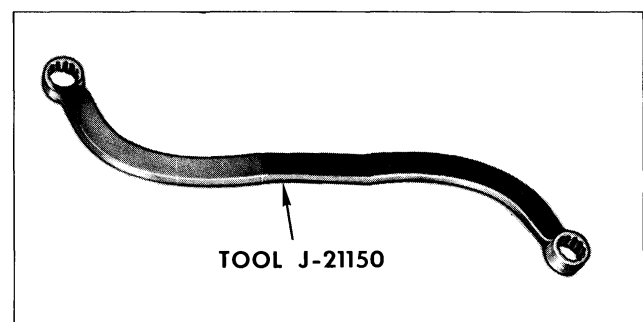

Fig. 12-17 Hinge Tool
**NOTE:** Tool J-21550 is designed for adjustment of front door hinge to body attaching bolts (Fig. 12-17). Usage of this tool eliminates the need of loosening the front fender. If tool J-21550 is not available or if additional clearance is desired, perform step 1 in the following procedure; otherwise, begin with step 2.